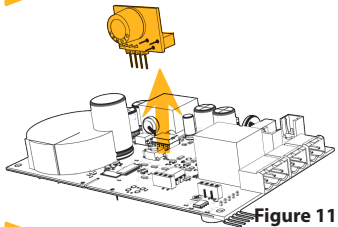

Figure 11
- 5) Gently pull out the old sensor. (Figure 11)